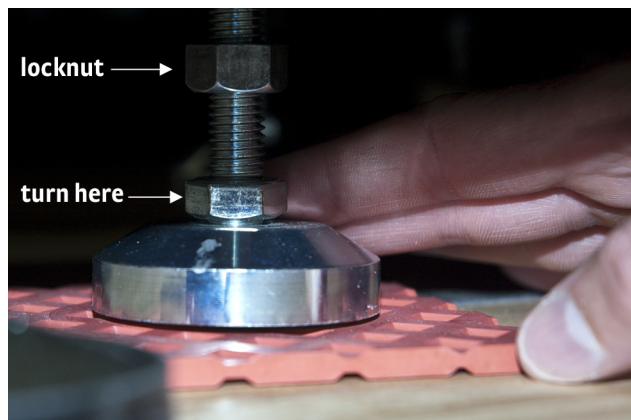

FIGURE 3-11 Left: Vibration isolation pads positioned under the CCR stand feet; Right: Remove the locking bolts and red spacing washers
1. Locate the four flexible red vibration isolation pads in the CRX-VF accessories box. Place them under the four feet of the CCR stand (FIGURE 3-11). Make sure the red pad for each foot is centered under the foot.
2. Locate the  $\frac{3}{4}$  in wrench provided in the CRX-VF tool kit. Use it to lower the CCR stand feet until they just touch the red pads (FIGURE 3-11). Do not add tension to the feet at this step.
3. Using a  $\frac{1}{2}$  in wrench or an adjustable wrench, remove the four bolts that lock the CCR stand to the probe station stand (FIGURE 3-11).
4. Using the  $\frac{3}{4}$  in wrench, continue to lower the CCR stand feet until the weight of the CCR stand is removed from the four red spacing washers located between the CCR stand and outer probe station stand (FIGURE 3-11).
- Using the  $\frac{3}{4}$  in wrench, lock the CCR stand feet locking nuts up against the bottom of the CCR stand (FIGURE 3-11).